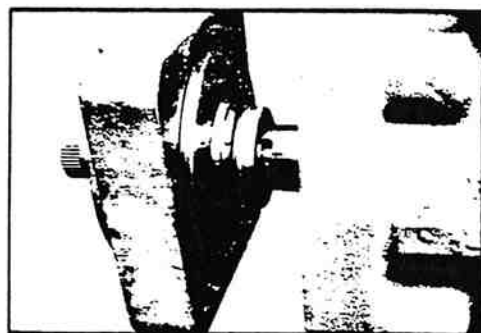

Figure 11-85. Housing and Sleeve Assembled on Worm Shaft.
34. Align the previously located timing marks and place the valve housing/valve sleeve assembly onto the input shaft end of the worm shaft until the drive lugs are fully engaged (figure 11-85).